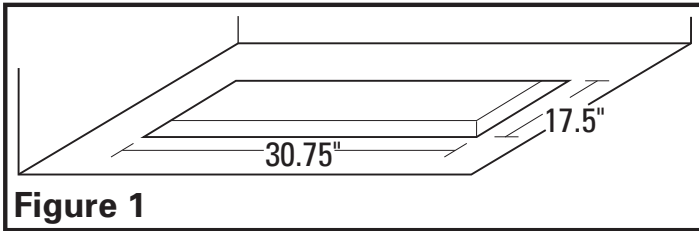

Figure 1
1. Cut a hole 30.7" wide by 17.5" deep into the cabinet or canopy the power unit will be mounted into (Figure 1):